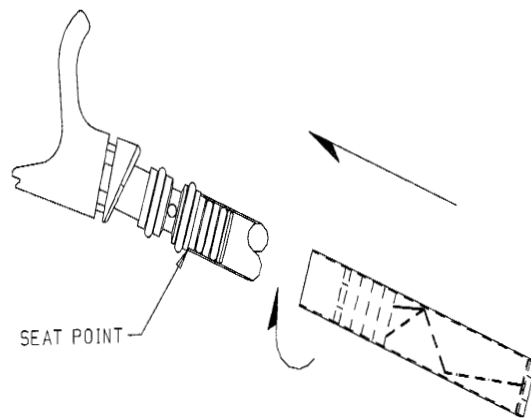

FIGURE 3
5. Position replacement collection chamber so that open end is towards holder, push and rotate collection chamber (**see Figure 3**) onto holder. Chamber should slide over two o-ring seals and stop on holder shoulder.